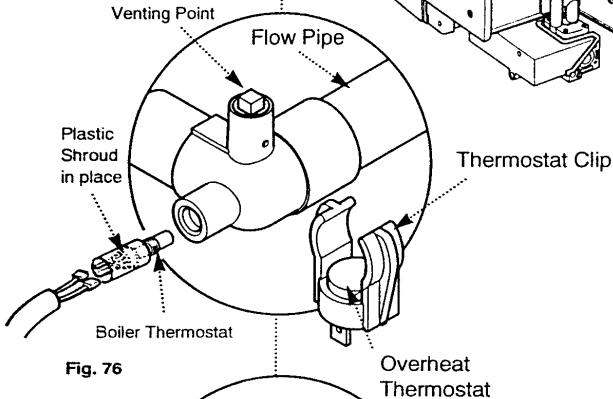

Fig. 76
3. The top flow connection incorporates the boiler thermostat, overheat thermostat and a venting point (Fig. 76).
5. Connect the two electrical tags of the thermostat lead to the connections on the thermostat - either wire can be connected onto either connection - there is no polarity (Fig. 76).
6. Remove the overheat thermostat and clip from the plastic kit bag. Engage the thermostat in the clip as shown (Fig 76). Prise the clip over the flow pipe as near to the vent as possible (Fig. 76 & 77).